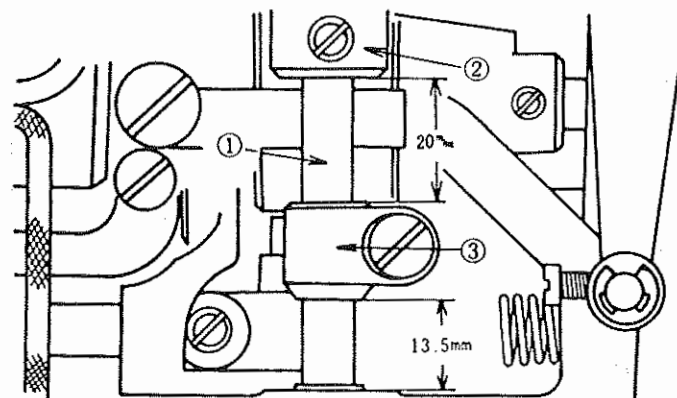

Fig. 52
Move thrust collar ② (Fig. 52) in the axial direction to obtain the 5.4 mm travel of slide shaft ① (Fig. 52). Position cam roller shaft bracket ③ as shown in Fig. 52 (13.5 mm).